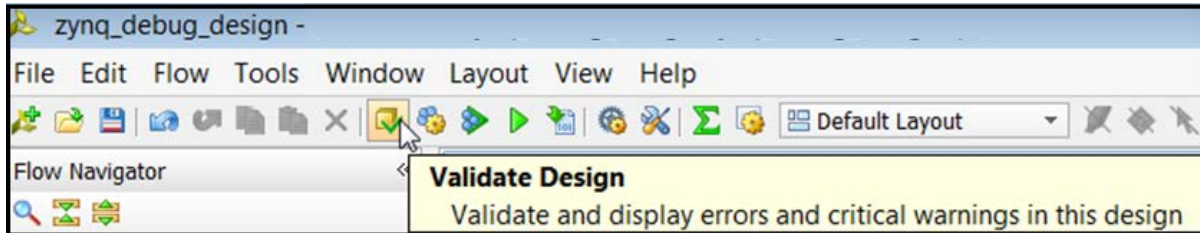

Figure 24: Validate Design Button
5. From the toolbar, run Design-Rules-Check (DRC) by clicking the **Validate Design** button (Figure 24). Alternatively, you can do the same from the menu by selecting **Tools > Validate Design**.